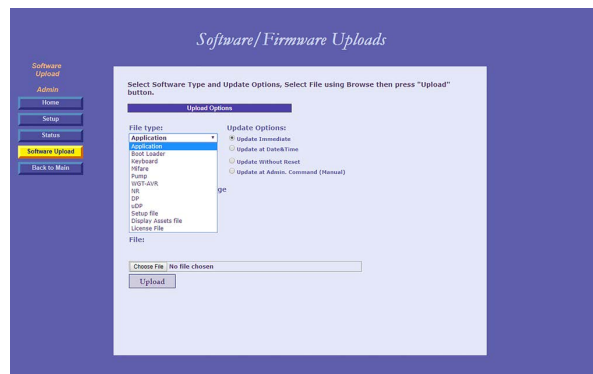

Figure 5-14 - File Type Drop-Down
1. In the **File Type** drop-down, select the file type that you'd like to upload (see Figure 5-14):